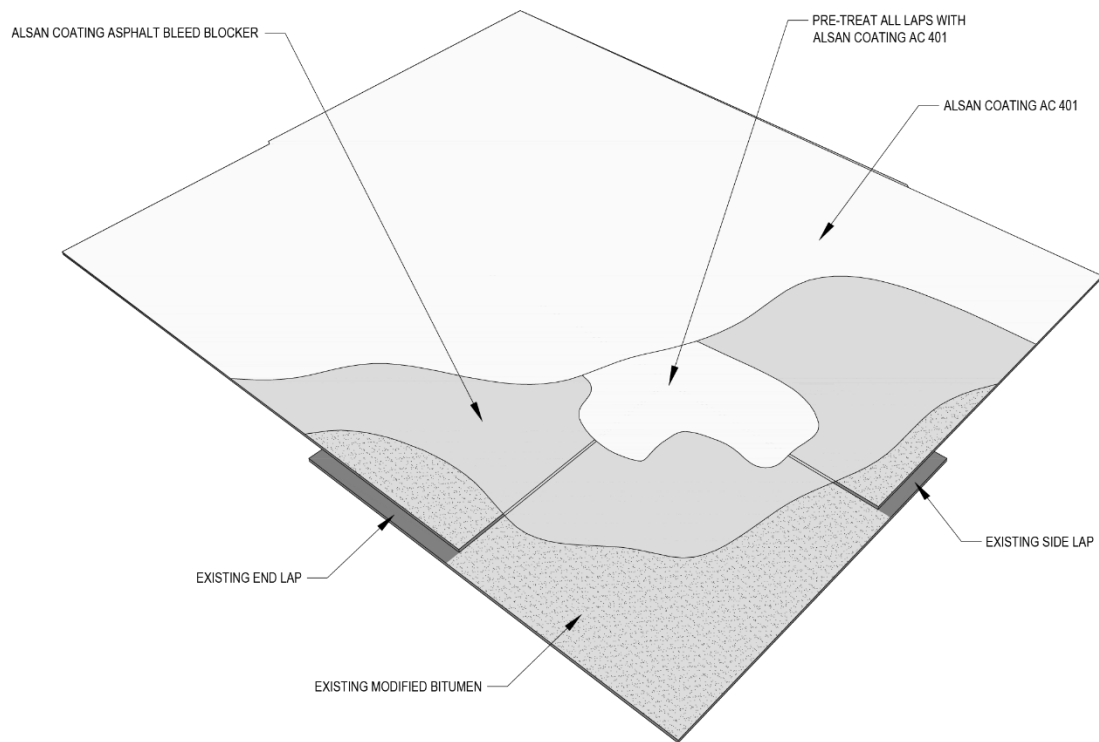

Figure 2.2a Acrylic Roof Coating Over SBS Modified Bitumen, Side/End Laps
- Refer to flashing detail guidelines indicated in Figures 2.2a through 2.2d.
- For ALSAN® COATING AC 401 flashing detail guidelines, refer to Figures 2.2a through 2.2h.